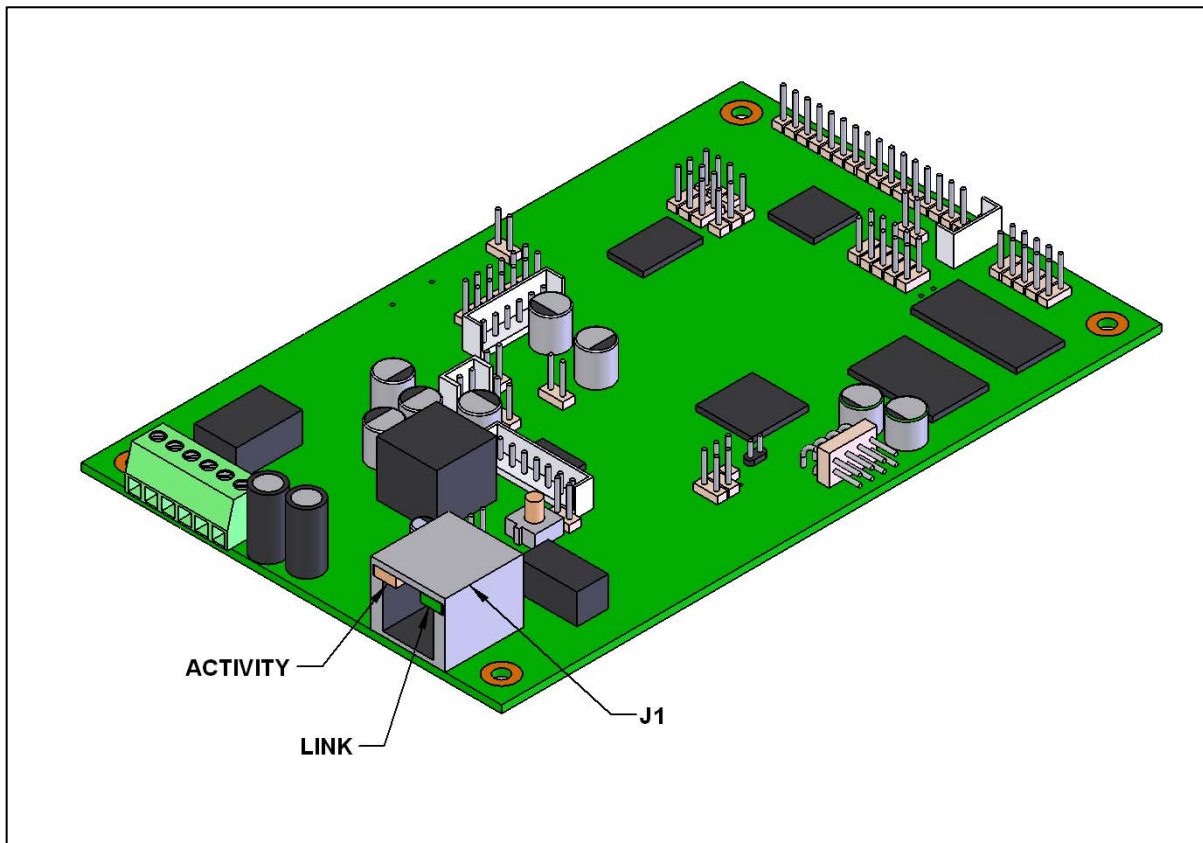

Figure 8 - Network Activity
See: Section 8.5 RESET Switch and Figure 8 - Network Activity
- The square, green **Link** light above the Ethernet port indicates that the network connection has been established (see Figure 8). The Link light changes color to confirm the auto-negotiated baud rate: